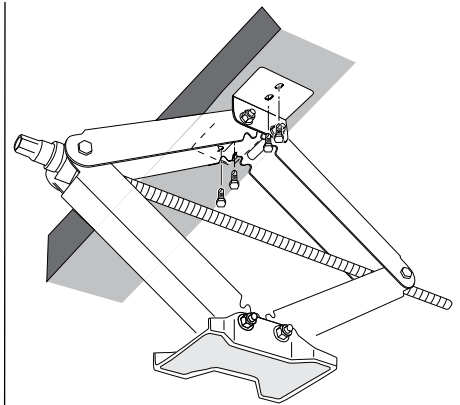

Figure 1
- Replace the jack in its location. With a 9/16" socket and ratchet, attach the scissor jacks to the frame using four bolts and four washers per jack. (fig. 1)